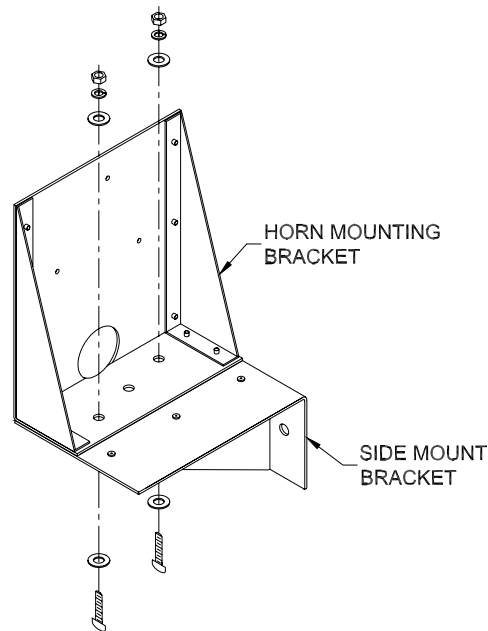

Figure 10 Side Mount Bracket Removal
- The horn mounting bracket has a side mount bracket attached. If the horn is going to be mounted on top of the scoreboard, remove the side mount bracket as seen in figure 10.